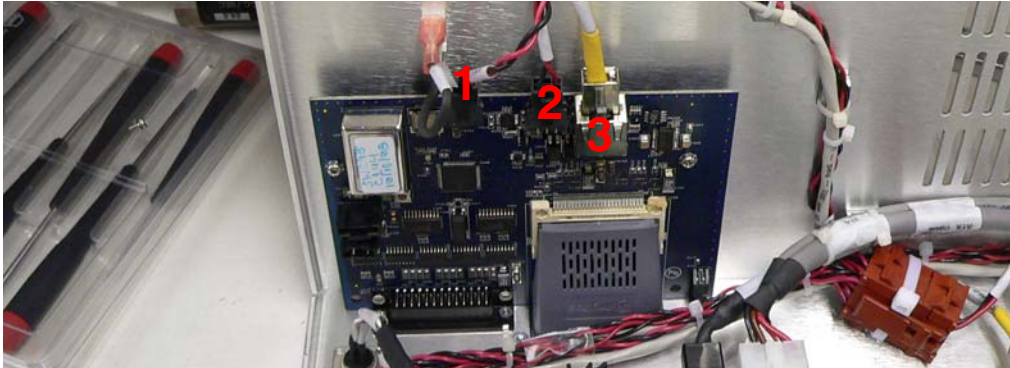

Figure B-39 Discrete I/O Board Wiring
4. Disconnect (Figure B-39):
7. Reconnect (Figure B-39 on page B-28):